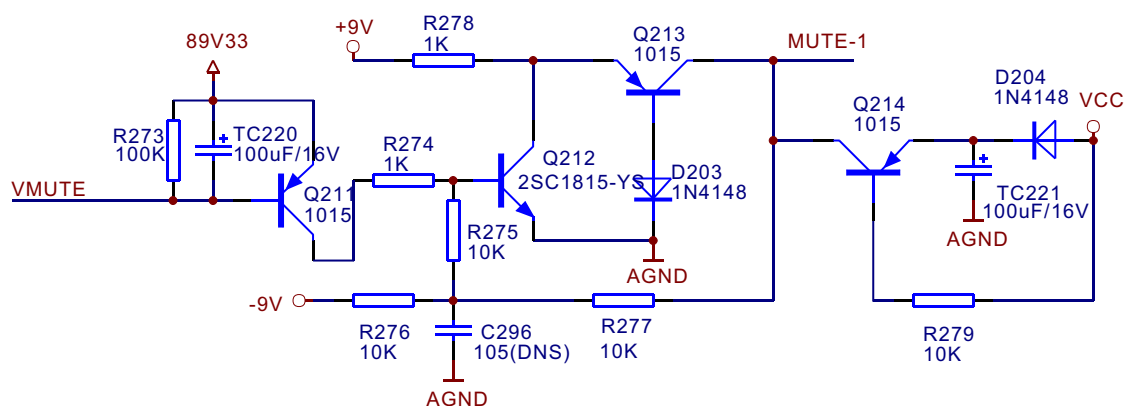

Figure 3.2.11.1 Mute circuit
1. Mute circuit is shown in the figure 3.2.11.1: